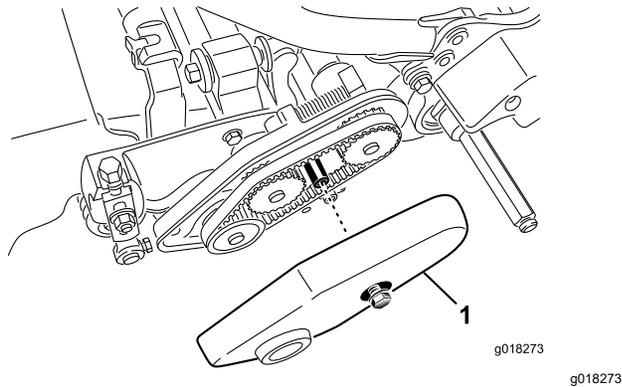

Figure 40
2. Loosen the flange bolt that secures the belt cover and remove the belt cover to expose the belt (Figure 40).